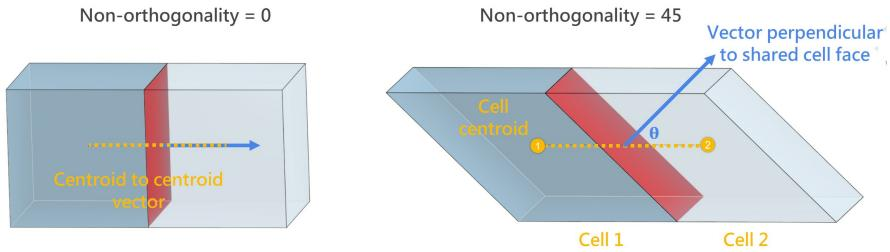

Figure 6.3: Non-orthogonality sketch [10].
- **Definition:** Non-orthogonality measures the angle between the normal vector of a cell face and the vector connecting the face center to the cell center. The range of non-orthogonality is between 0 (ideal) and 90 (worst). 0 indicates the mesh being orthogonal. Two perfect hexes aligned with each other have non-orthogonality equal to 0, see Figure 6.3.